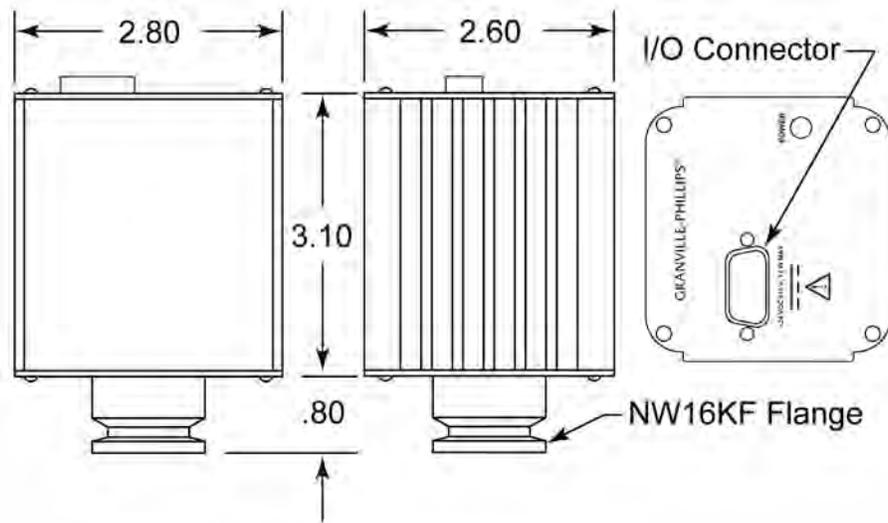

Figure 3-1: Series 342 & 343 Mini-Ion Gauge Dimensions
- See Figure 3-1 in the Specifications Chapter.